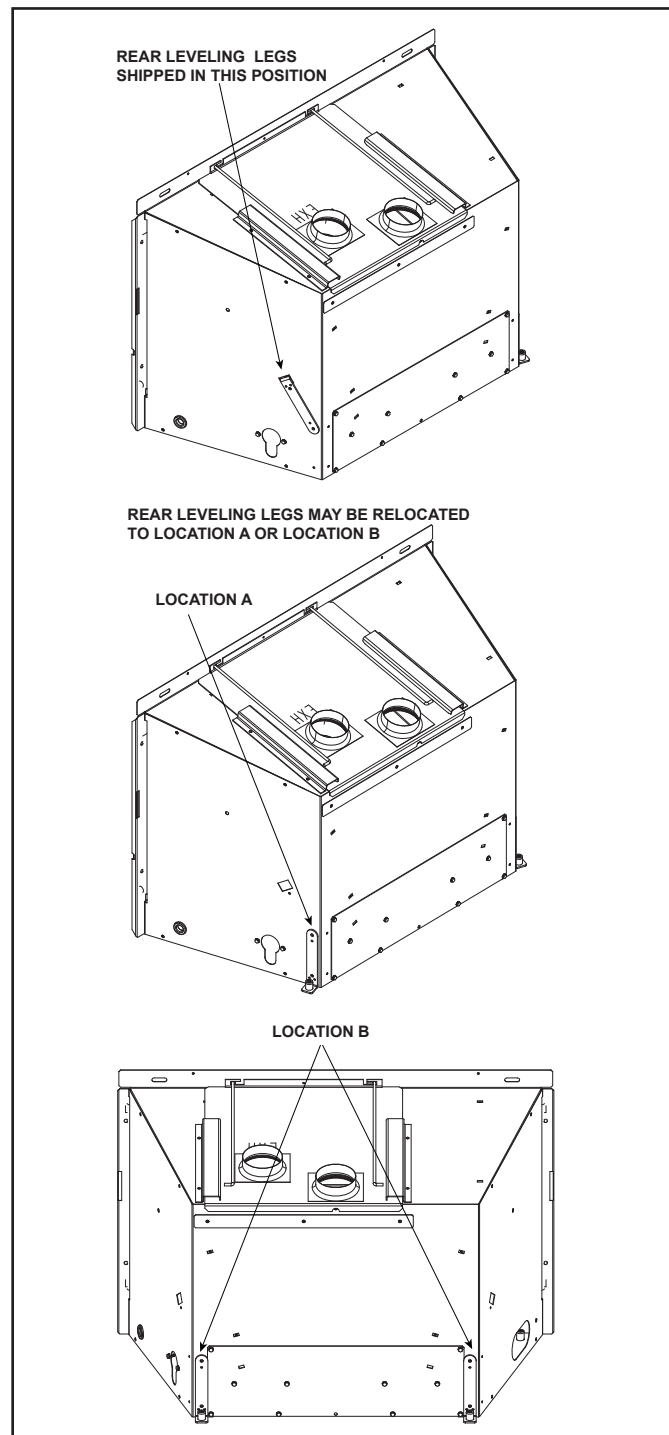

Figure 8.3 Leveling Legs
- Remove rear leveling legs from shipping position and relocate to one of the positions shown in Figure 8.3. Remove both screws that secure the leveling leg to the side of the appliance. Turn the leveling leg around so that the foot is facing out and downward. Line up the two holes on the leg with the holes on the appliance and secure with screws. See Figure 8.3.